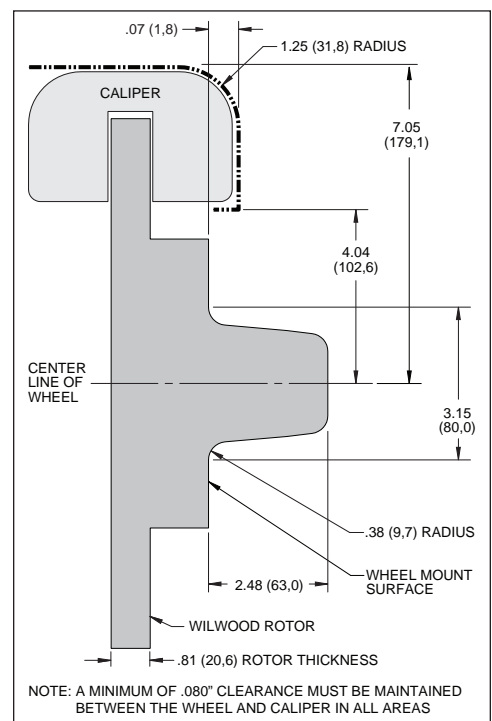

Figure 2. Wheel Clearance Diagram
- Verify wheel clearance utilizing Figure 2.